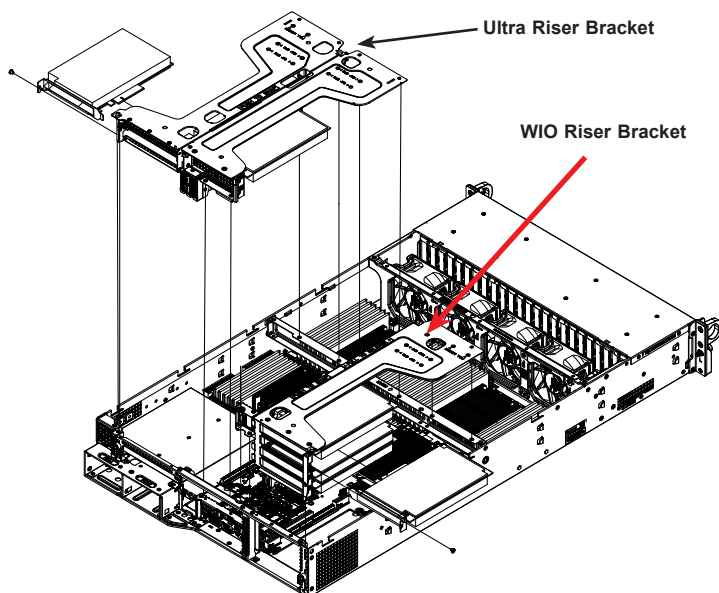

Figure 6-9. Expansion and Riser Cards—Rear View
2. Remove the Ultra riser bracket or WIO riser bracket by flipping up its riser cage release tab as pictured in Figures 6-9.